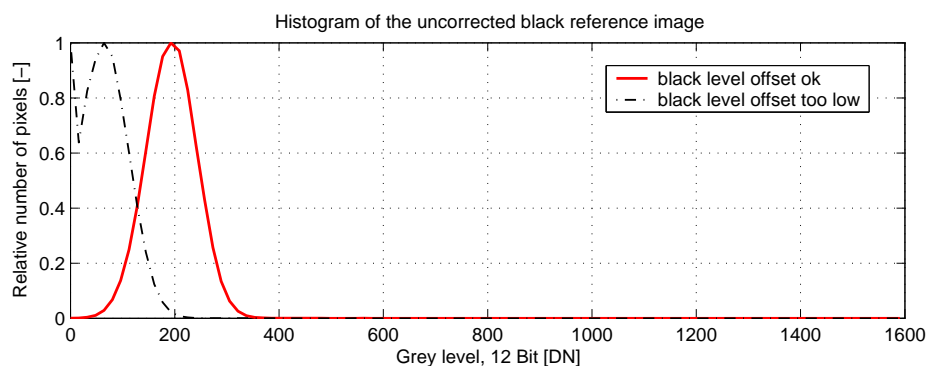

Figure 4.49: Histogram of a proper black reference image for offset correction
- It may be necessary to adjust the black level offset of the camera. In the histogram of the black reference image, ideally there are no grey levels at value 0 DN after adjustment of the black level offset. All pixels that are saturated black (0 DN) will not be properly corrected (see Fig. 4.49). The peak in the histogram should be well below the hot pixel threshold of 1008 DN @ 12 bit.